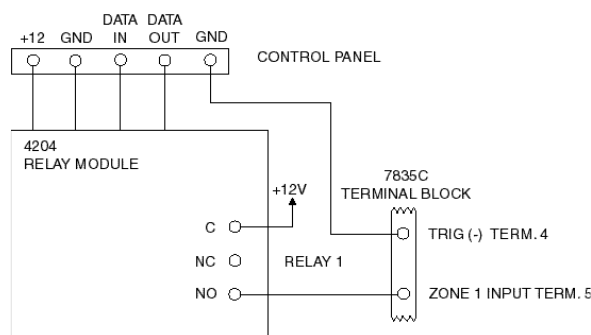

Figure 9. Wiring the K3852 zone 1 input to be triggered by an ADEMCO 4204 Relay Module
2. Connect the N.O. contact of the relay to the input zone. When the relay is activated, voltage will be applied to the zone, causing the radio to send its message (see Figure 9).